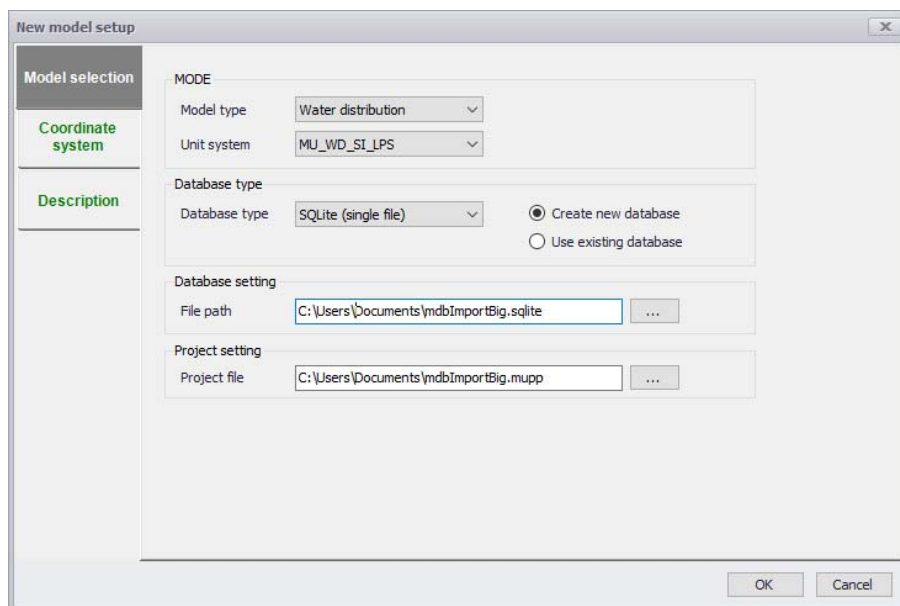

Figure 10.1 Creating a new water distribution project
1. Create a new water distribution system model by going to File|New and in the dialog that appears, select the model type to be "Water Distribution". (Refer to Figure 10.1). Note, you can always change your initial choice of mode which activates/de-activates the appropriate menus afterwards.